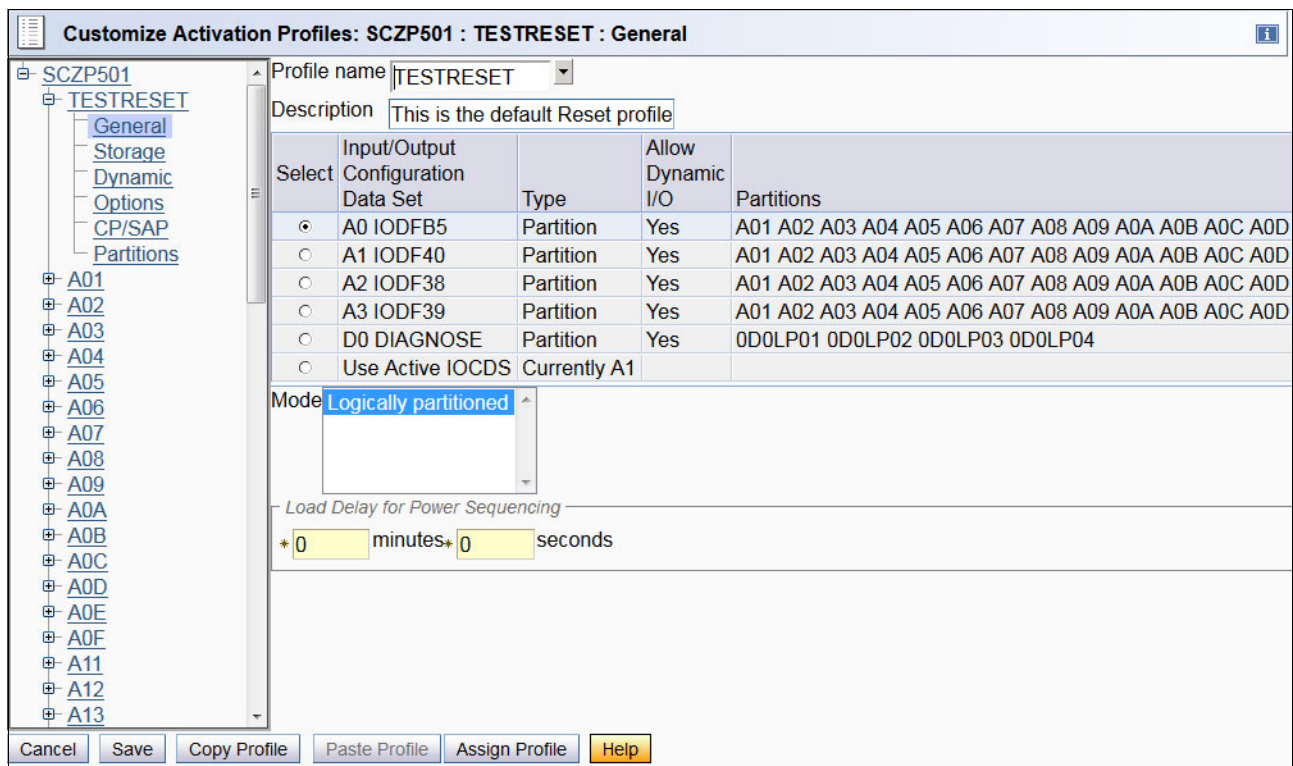

Figure 7-97 HMC - Reset and Image profile list
11. Note the list of LPARs that were retrieved and built based on the LPARs that were defined in the selected IOCDS. Click **Save** (Figure 7-97).